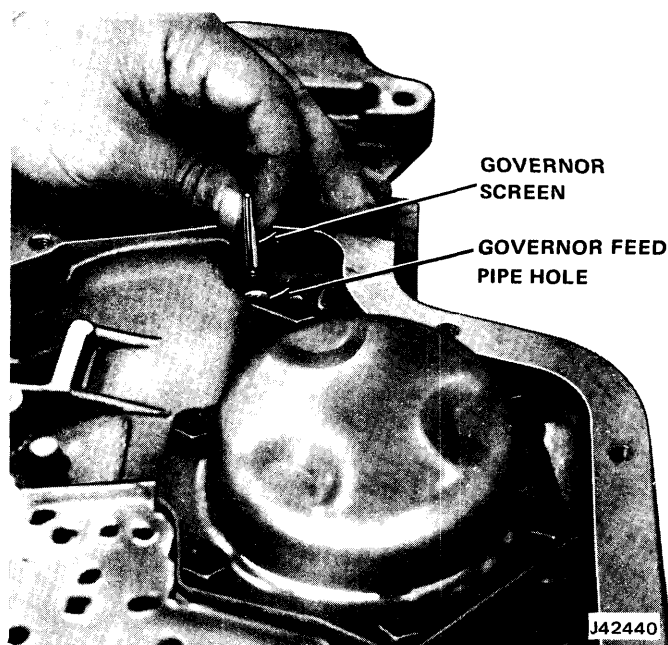

Fig. 7-11 Removing—Installing Governor Screen
(4) Remove governor screen from end of governor pipe or governor pipe hole in case (fig. 7-11). Clean screen in solvent and allow it to air dry.
(5) Remove governor pipes from control valve assembly.
(6) Remove control valve-to-spacer gasket.